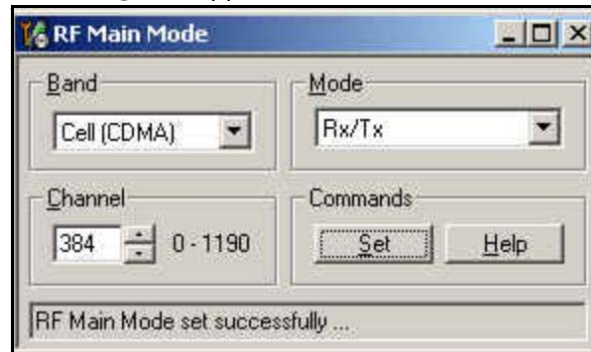

Figure 8: RF Main Mode dialog box for Cell Mode
6. Open the **Troubleshooting** menu, point to **RF**, and click **RF Main Mode**. The **RF Main Mode** dialog box appears. (See Figure 8 on page 14.)